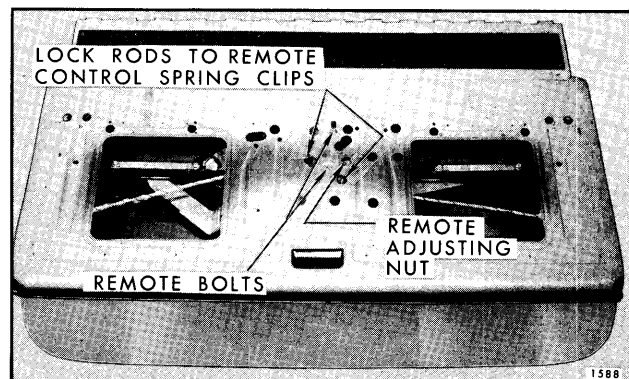

Fig. 9-16—Tail Gate Hardware - "B" Body Styles
3. Remove remote control attaching bolts and remove assembly from tail gate. On "B" styles, it is necessary to disengage remote from inside handle push rod (See Fig. 9-16).